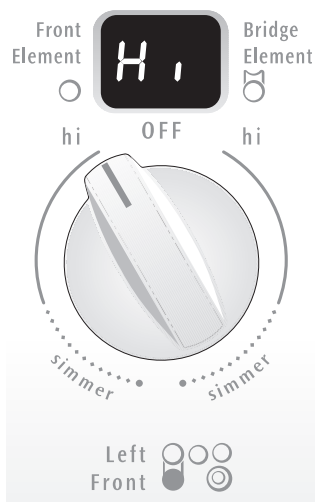
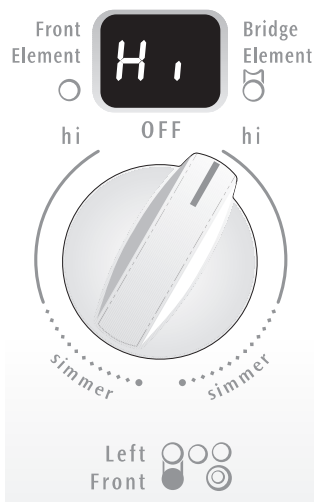

Fig. 1
Fig. 3
2. Push in and turn the control knob counterclockwise (See Figs. 1 & 2) to heat the portion of the Bridge element for normal shaped cookware or clockwise (See Figs. 3 & 4) for larger or rectangular shaped cookware.